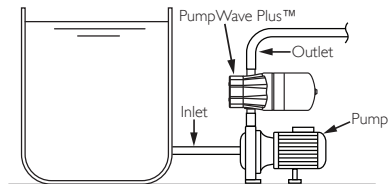

Fig. 2 Installation Example
1. PumpWave Plus™ must always be installed on the delivery side of the pump as illustrated in figure 2